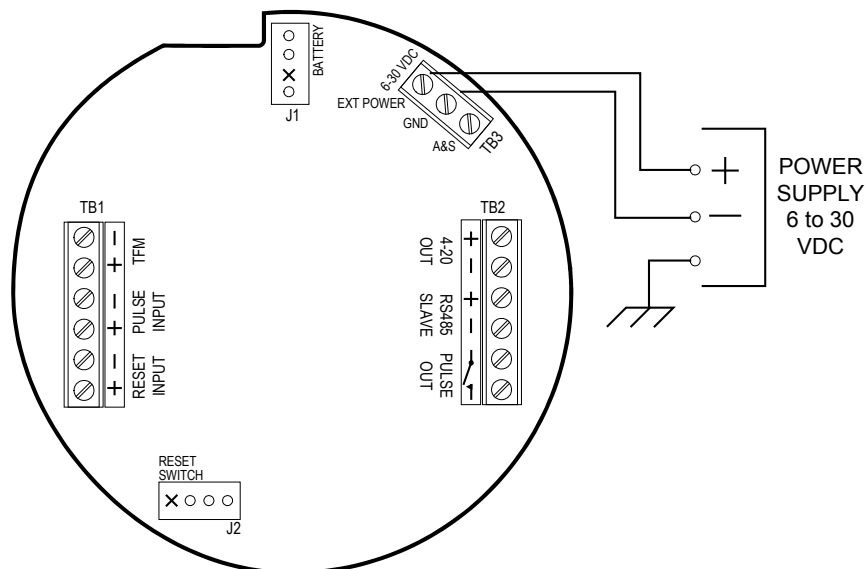

Figure 2.2—External power supply wiring
2. Connect wiring for external power, if appropriate. See *Figure 2.2, page 18*.
The MC-III Panel Mount can be connected to a remote power supply by a two-conductor cable (Figure 2.2). The power supply and cable must be capable of supplying 6 to 30 VDC @ 10 mA. This capability is available only if the 4-20 mA rate output is not used.